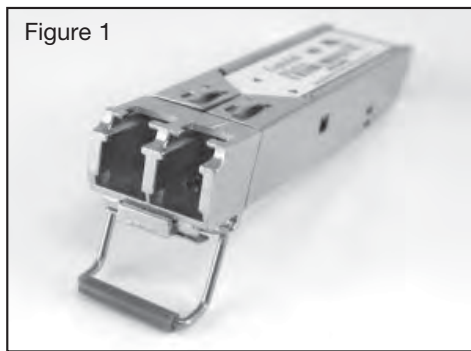

Figure 1
**SFP-(X) INSTALLATION/REMOVAL**
- The SFP sub-module (see Figure 1) has a bale clasp that you use to secure the SFP sub-module in a connector cage.